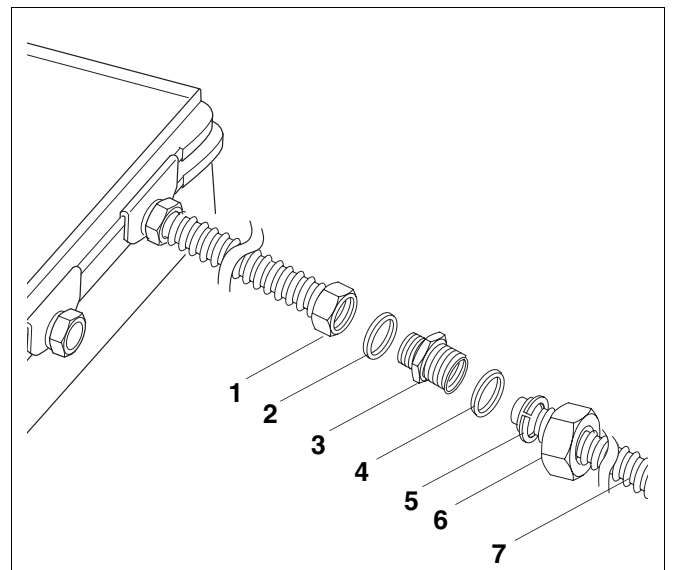

Fig. 2 Install the corrugated stainless steel hose on the flow connection.
- Insert the gaskets (Fig. 2, **item 2 and 4**) as shown in the graphic illustration.
- Thread the reducer  $R\frac{3}{4} \times R1$  (Fig. 2, **item 3**) into the union nut of the connection line (Fig. 2, **item 1**).
- On the corrugated stainless steel hose thread the (Fig. 2, **item 7**) Pre-assembled union nut Rp1 (Fig. 2, **item 6**) onto the reducer  $R\frac{3}{4} \times R1$  (Fig. 2, **item 3**).